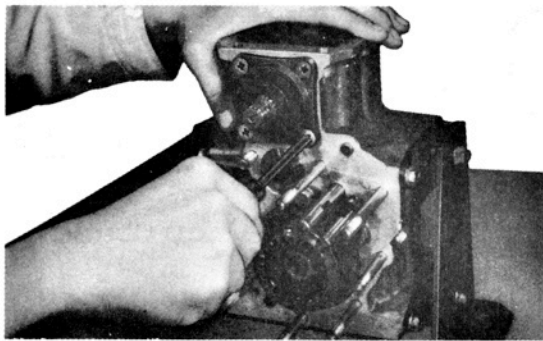

Fig. 3-7.
- 10) Take out the four (4) cross-head screws as shown in the Fig. 3-7 and remove the input shaft bearing retainer together with the oil seal.